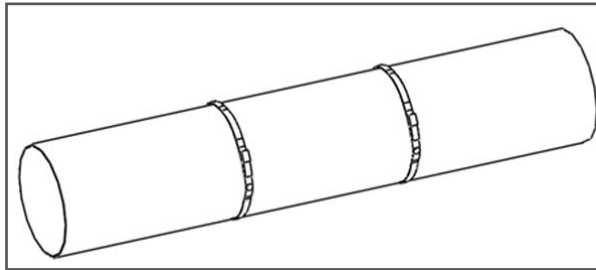

Figure 9: Mounting Straps Installed on Pipe
- b. Install the two mounting straps on the pipe about 12 in. (30 cm) apart (see *Figure 9 below*).